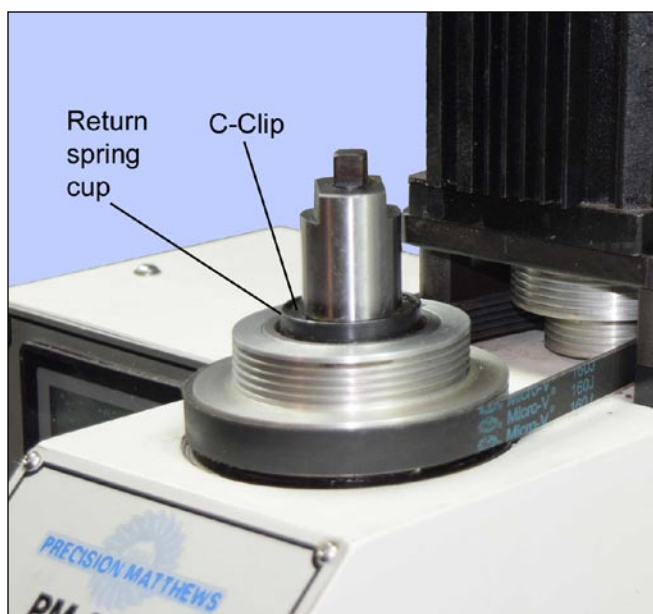

Figure 4-6 Remove drawbar cap for access to the C-Clip
5. Press down on the return spring cup while removing the C-Clip, Figure 4-6.